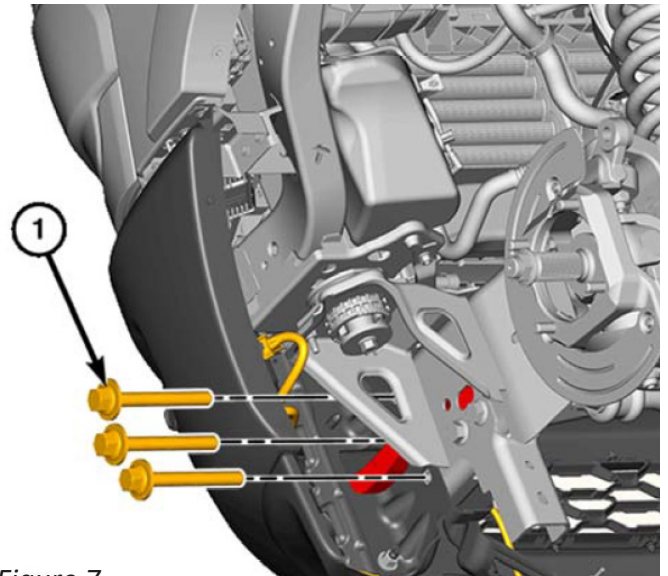

Figure 7
7. With assistance, support the bumper from both sides of the vehicle. Using an 18mm socket wrench, 24mm socket wrench and 18mm open end wrench, remove the three factory bumper bolts that hold the factory bumper to the frame rail. (Figure 7)